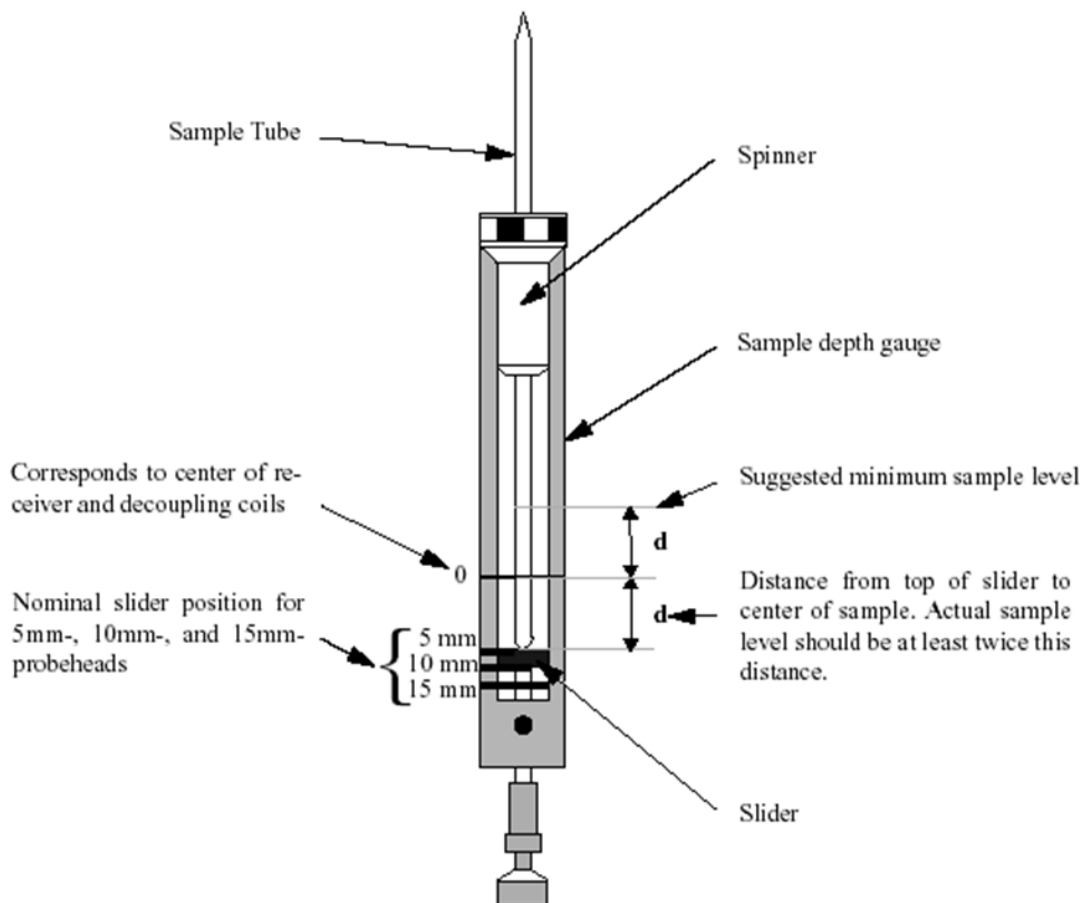

Figure 2: Sample positioning using sample depth gauge.
- If the amount of solute is very low, a long shimming of higher order shims (z3, z4, z5, etc.) can compensate for the smaller amount of solvent in the NMR tube. In this case you should adjust the depth of the NMR tube, using the sample depth gauge (Figure 2). The other solution to the problem is to dilute your sample to increase the volume to 0.7 ml and increase the scanning time, keeping the sample depth as for a normal sample.
- The NMR tube must be placed properly in the spinner, before introducing it in the NMR machine (Figure 2). The spinner is a cylindrical tube, made out of Kel-F or other polymer with a rubber band or rubber O-ring at one end, which holds the tube well in place. Before introducing the tube in the spinner, it should be cleaned with Kimwipe or equivalent wipes. If not some grease and other chemicals on the outside of the tube may contaminate the spinner and even cause not to keep it properly in place. **Therefore, wiping off the tube is very important.**
- The NMR tube must be positioned in the spinner so that the sample depth does not exceed the maximum allowable depth inside the NMR probe (Figure 2). If the maximum allowable depth is exceeded, the tube or probe or both might break (the tube should not stick out of the spinner too much or otherwise hit part of the probe). In order to avoid this mistake,
- The NMR tube must be placed inside the spinner so that the detection region is in the middle of the distance determined by the meniscus at the top and the bottom of the tube (Figure 2). Once again use the sample detection gauge provided to see where the detection region is. The above directions for placing the tube can be disregarded only when the tube cannot go any lower, because it is down to the maximum allowable sample depth. If the sample is not positioned properly (particularly in the case of insufficient solution volume), shimming will be very difficult.